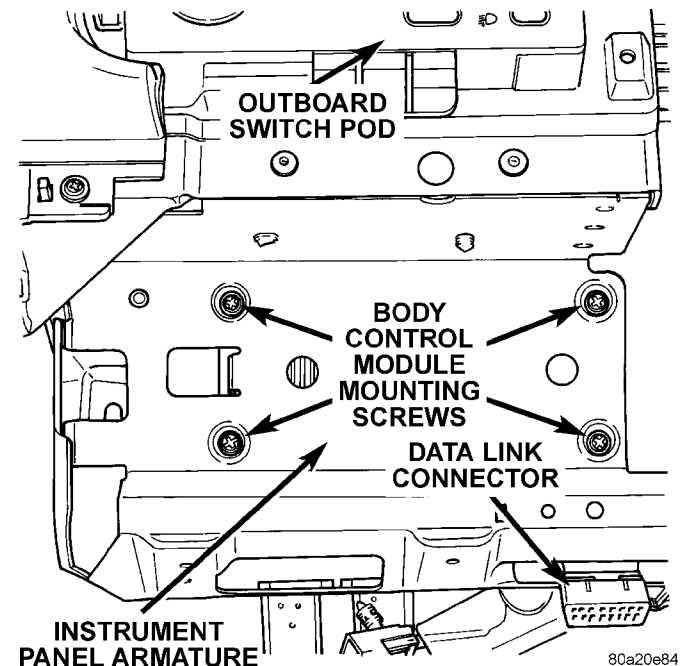

Fig. 11 Body Control Module Remove/Install
(1) Remove the steering column opening cover/knee blocker from the instrument panel. See Steering Column Opening Cover and Knee Blocker in this group for the procedures.
(2) Remove the four screws located below the outboard switch pod that secure the Body Control Module (BCM) to the instrument panel armature (Fig. 11).